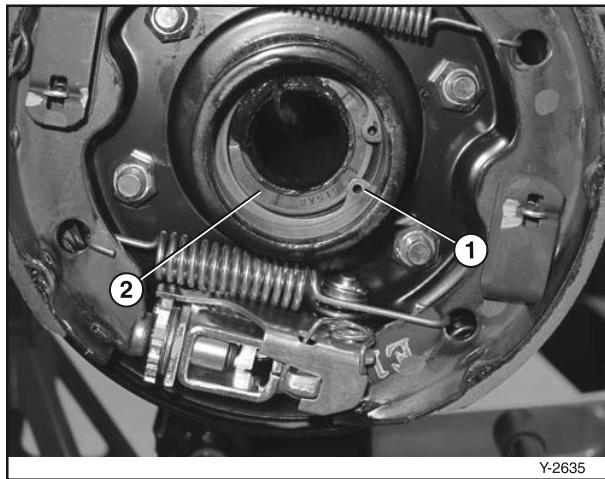

Figure 6-30
5. Remove the inner snap ring (**Figure 6-30, (1)**).
6. Use a seal puller and remove the axle seal (**Figure 6-30, (2)**).